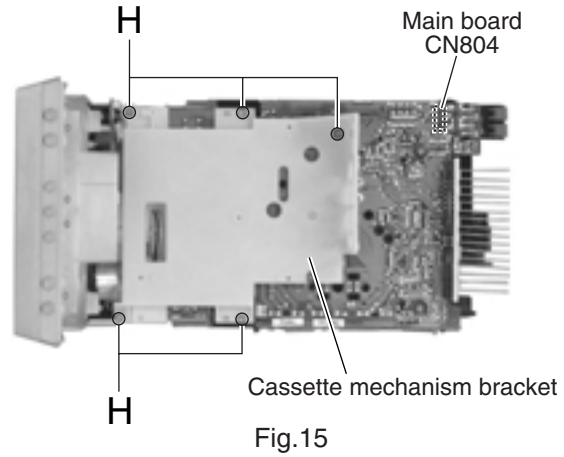

Fig.15
■ Removing the main board / the heat sink (See Fig.15 to 17)